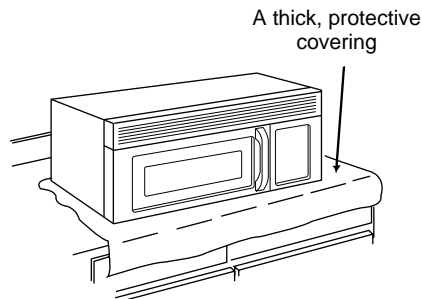

Figure 20
2. Cover the counter top or cooktop with a thick, protective covering to protect it from damage and dirt. See Figure 20.